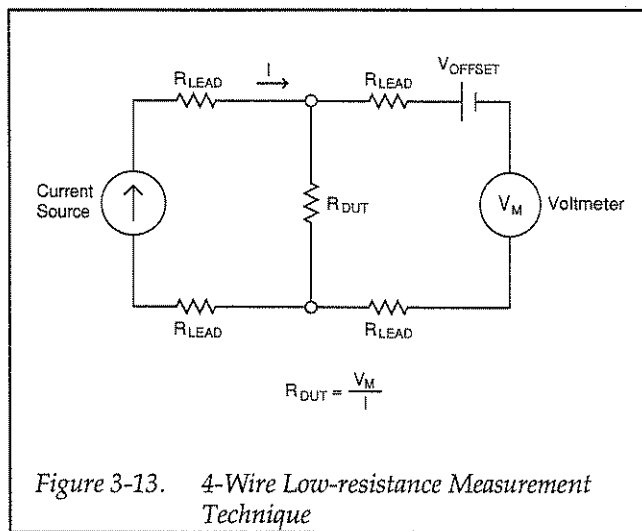

Figure 3-13. 4-Wire Low-resistance Measurement Technique
Techniques used to measure resistances in the normal range are not generally suitable for making low-resistance measurements because of errors caused by voltage drops across the test leads. To overcome these limitations, low resistance measurements are usually made using the 4-wire (Kelvin) connections shown in Figure 3-13. A current source forces the current (I) through an unknown resistance, developing a voltage across that device. Even though the test lead resistance, R_{LEAD} , is present, it does not affect the current through R_{DUT} because I is assumed to be a constant current source with high output impedance. Also, if the voltmeter has a very high input resistance, the current through the sense leads will be negligible, and the voltage drop across R_{LEAD} will be essentially zero. Thus, the voltage measured by the meter will be essentially the same as the voltage across the unknown resistance, R_{DUT} .
Although the 4-wire measurement method minimizes the effects of lead resistances, other factors can affect low-resistance measurement accuracy. Thermal EMFs, and other effects can add an extraneous DC offset voltage (V_{OFFSET} in Figure 3-13) to the measured voltage. One method that can be used to cancel this offset is to first apply a positive current and then a negative current of the same magnitude (I). As each current is applied, the voltage across the device (DUT) is measured.